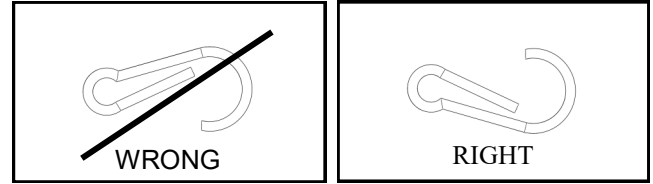

Fig. 11.5
B: Attach Carabineer (18) to grommet holes in Net (3) and hole in the Inside net pole (17). Repeat on other three Inside net poles (17). See figure 11. Carabineer (18) latch should face up. See figure 11.5.